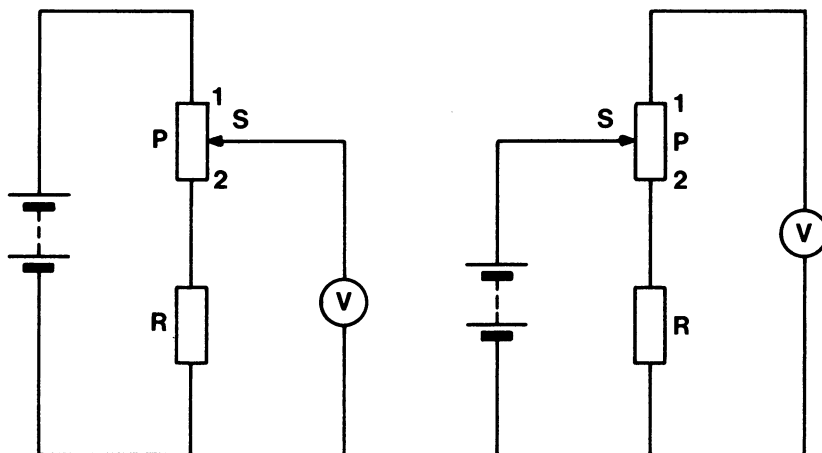

FIG. 3.26
21. In each of the circuits 1 and 2 shown in Fig. 3.26 the position (S) of the slide on the potentiometer (P) is varied between positions 1 and 2 and the readings of the voltmeter (V) are plotted as a function of the position of S. The e.m.f. of the